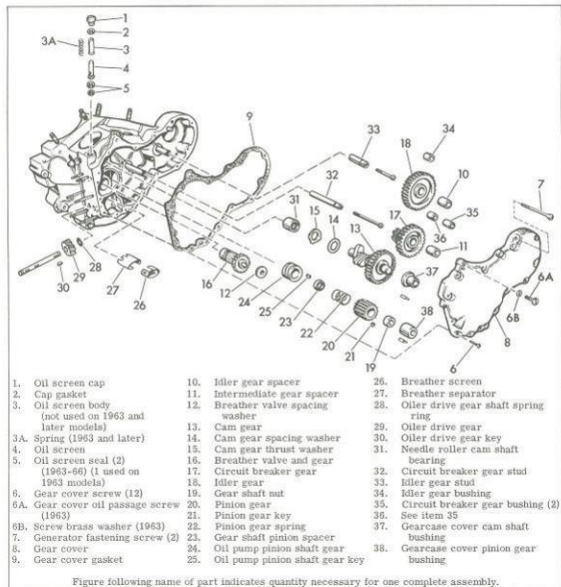

Figure 3D-4. Gearcase - Exploded View
ASSEMBLING TAPPETS (Fig. 3D-2)
Assemble tappets as follows: Slip tappets (5) into guide (4) so flat surfaces on tappets are toward center of guide as shown in Fig. 3D-3. If flat surfaces with holes are not toward center of guide, engine oil will not feed across and one hydraulic unit cannot fill
DISASSEMBLY (Fig. 3D-4)